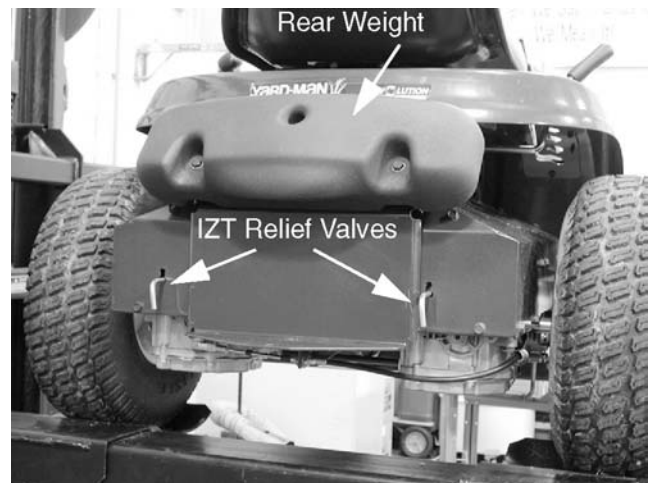

Figure 11-3
- IZT Relief Valves rods on either side of the weight bracket on the rear frame. See Figure 11-3.